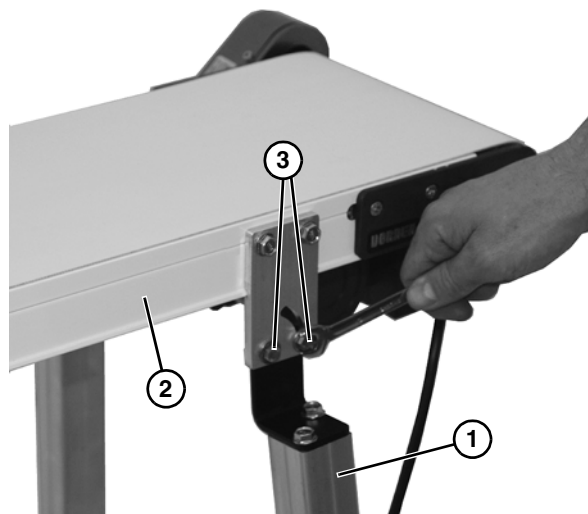

Figure 2
<p>Failure to secure screws (Figure 2, item 3) may cause conveyor sections to drop down causing severe injury.</p> <p>TIGHTEN SCREWS (Figure 2, item 3) AFTER ADJUSTMENT.</p>
2. Attach the stand (**Figure 2, item 1**) to the conveyor (**Figure 2, item 2**) and tighten the four bolts (**Figure 2, item 3**). For 2300 and 5300 series conveyors see “Proper Methods of Attachment to Side Rails” on page 6.